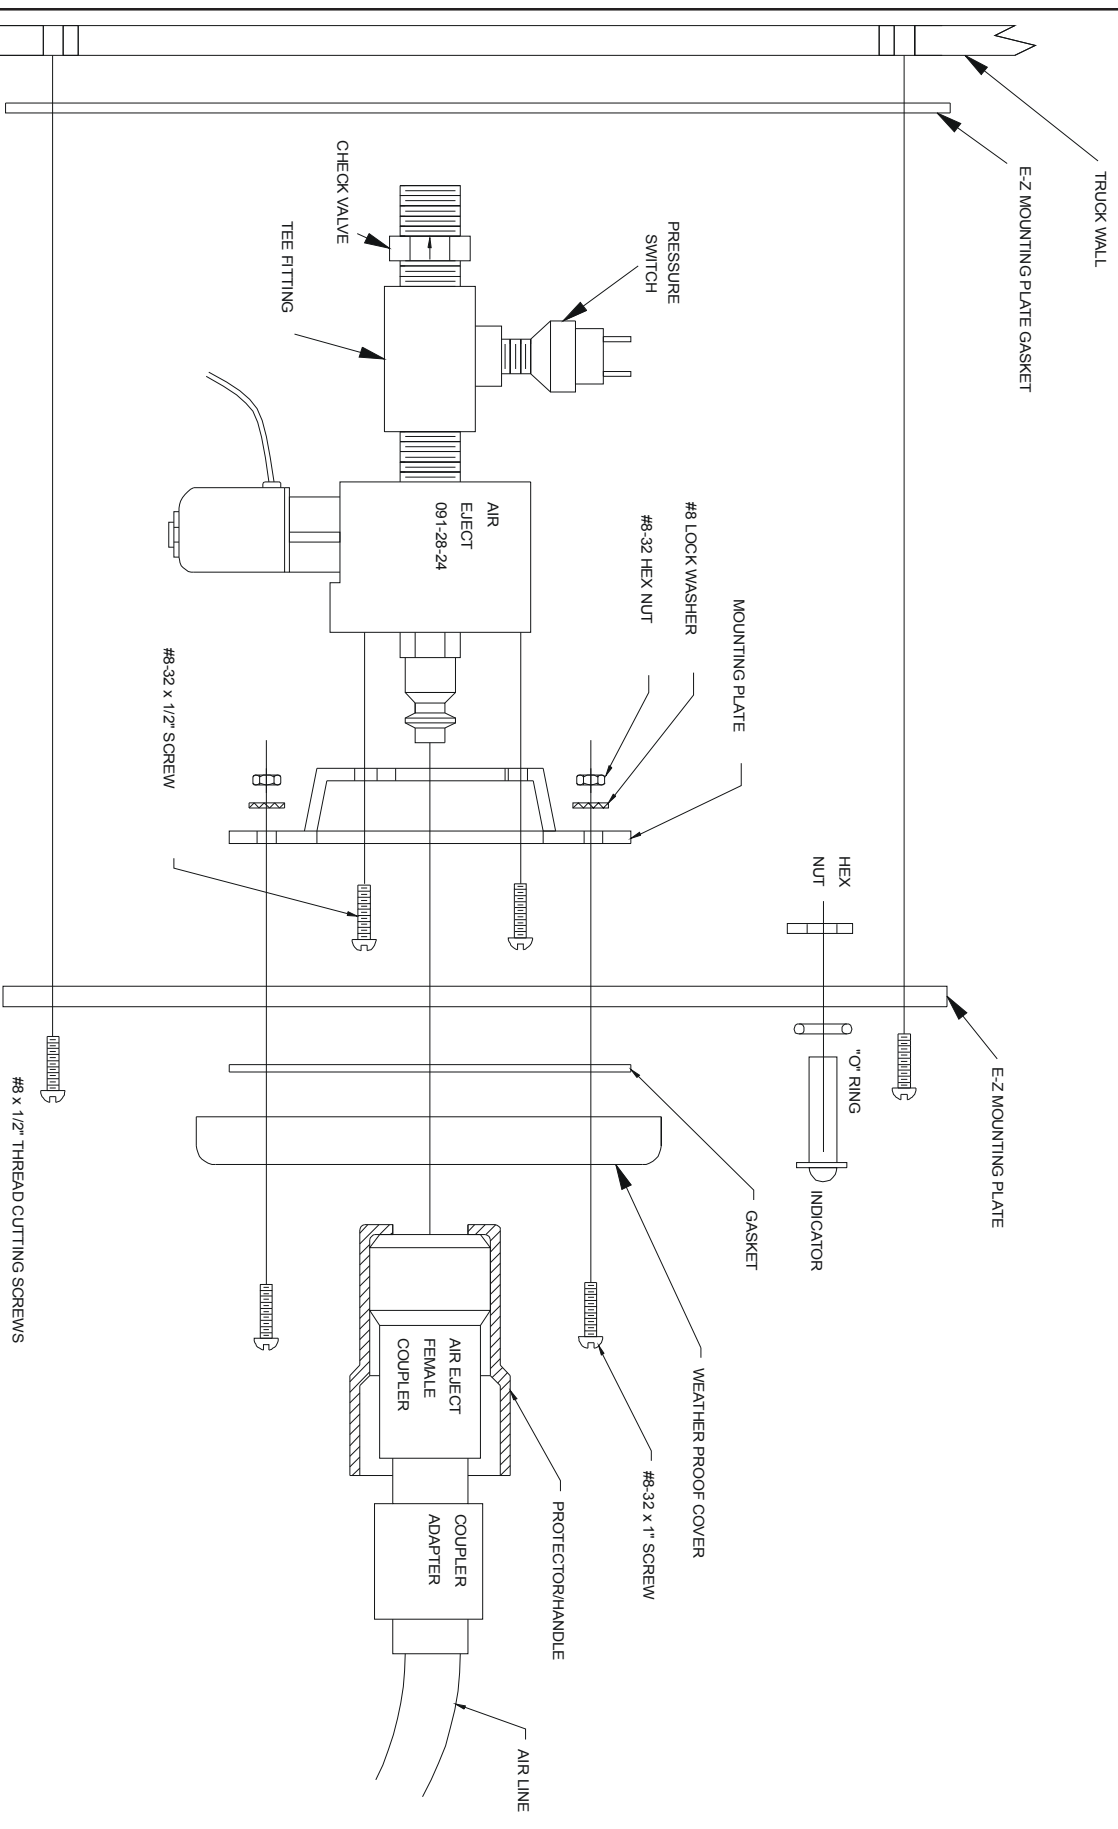

Figure1 Mounting
5. See Figure 1, Mounting. Install Weatherproof Cover, Weatherproof Cover Gasket, Indicator light, 24 Volt Air Eject assembly, Air Eject Weatherproof Adapter Kit 091-28AK and Air Eject Indicator Kit 091-28-IND to E-Z Mounting Plate.
6. Install this assembly and E-Z mount gasket into cutout in truck wall using (4)#8-32 x 1/2" self tapping screws provided.